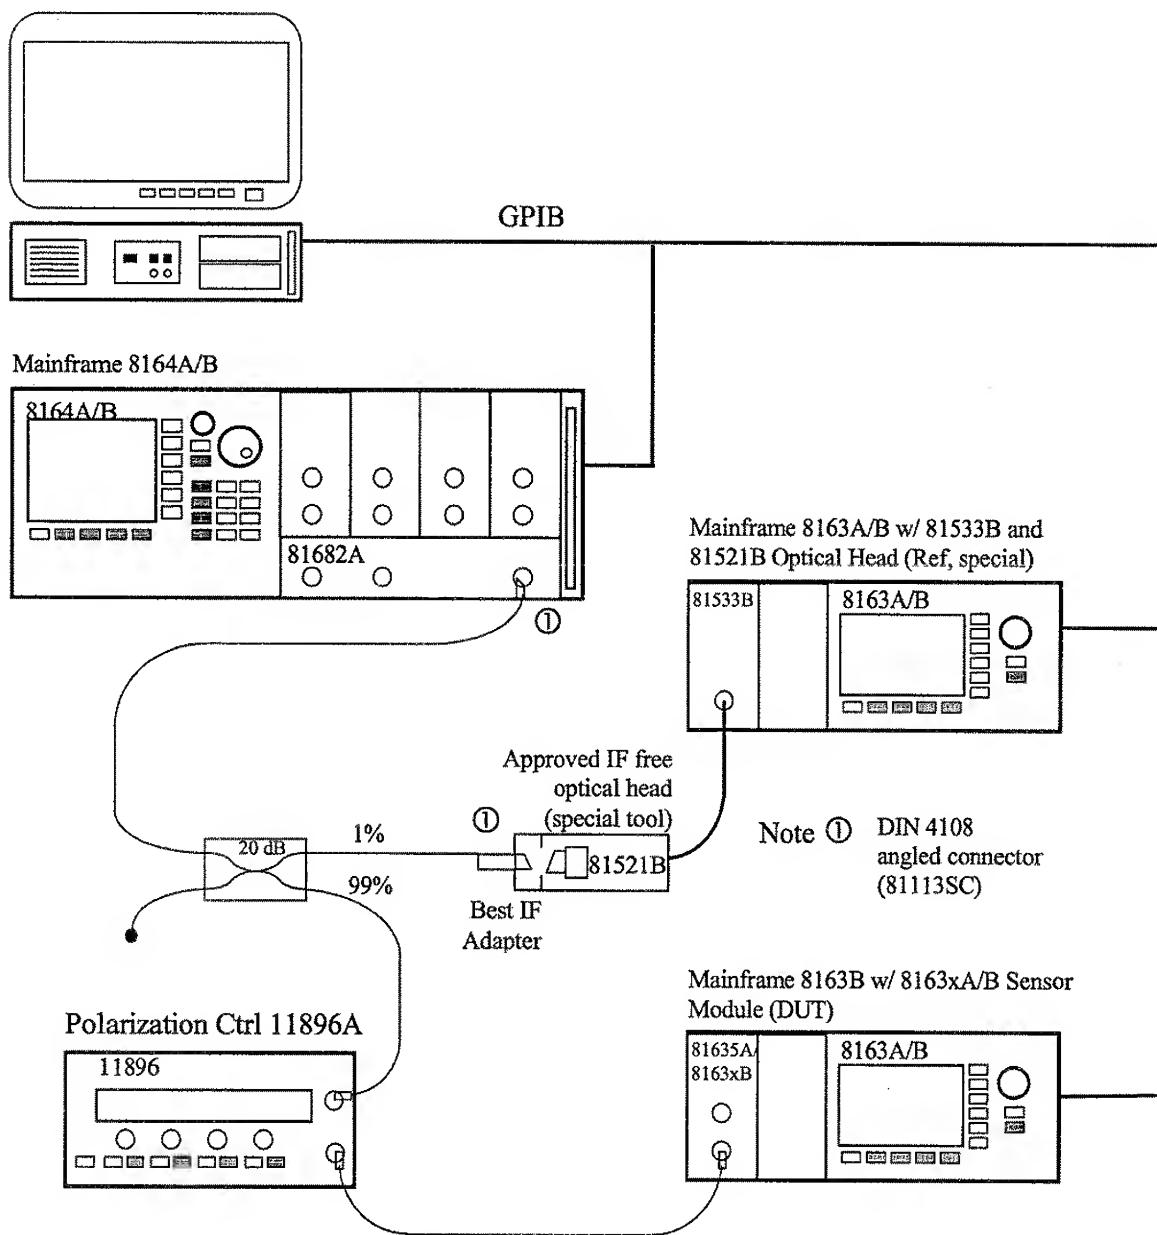

Figure 8 Measurement Setup for PDL Test
- 9 Disconnect the 81610CC Reference Cable from the setup and connect a 81113SC user cable to the Return Loss Module and leave the other end open as shown in Figure 8.**